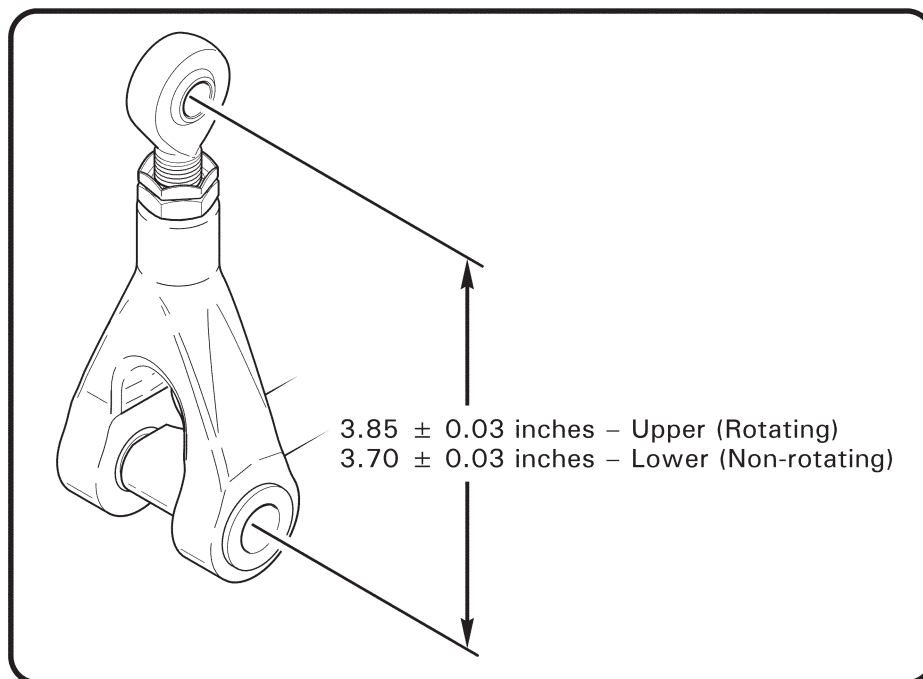

FIGURE 18-9 A205-7 FORK DIMENSIONS FOR SWASHPLATE SCISSORS
1. Refer to Figure 18-9. Adjust swashplate A205-7 lower fork assembly (non-rotating) to 3.70 ± 0.03 inches, and upper fork assembly (rotating) to 3.85 ± 0.03 inches.